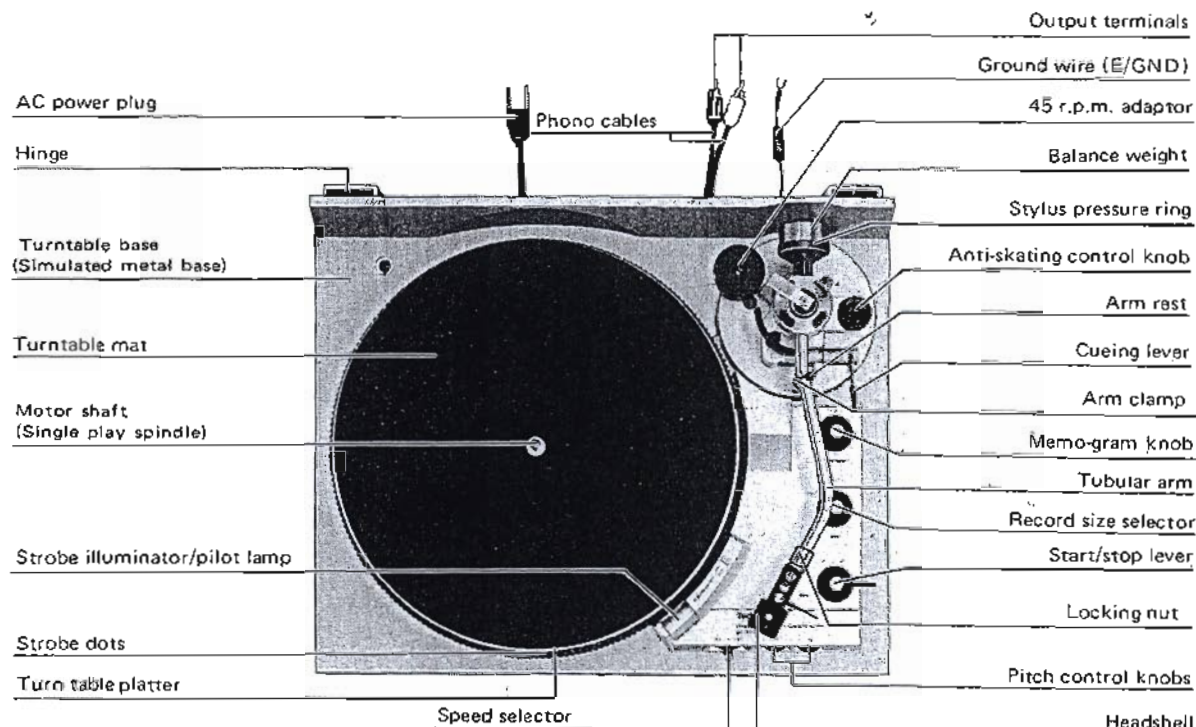

Fig. 1
- 2) Make sure that speed selector is in the "1" position, the balance adjustment is easily made as the turntable platter remains stationary. (See Fig. 1).
- 4) Make sure that the "memo-gram" knob is in the "0" position. (See Fig. 1).